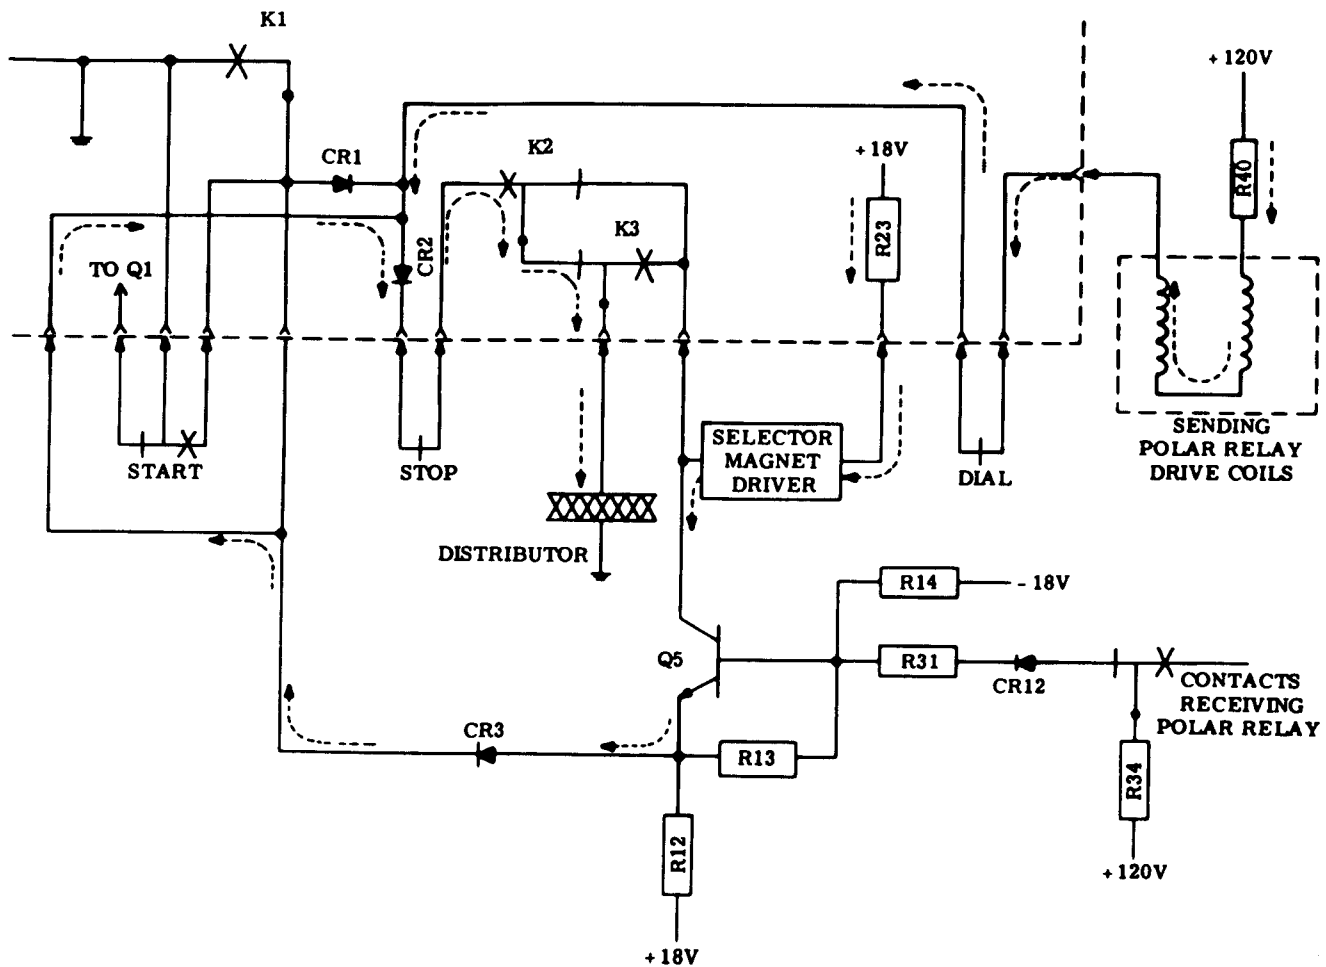

Figure 12 - Receiving Loop Control Circuit With Receiving Polar Relay
3.64 If ground is applied to the emitter of Q5 through CR3 or by strapping binding posts no. 1 and 2, the base is reverse-biased by the voltage divider made up of R13 and R14. If base current is now supplied, the transistor will turn on. With the collector load as shown in Figure 12, 0.060 ampere of collector current will flow.
contacts to ground as shown in Figure 12. Base current to Q5 is now supplied from the marking contact of the receiving polar relay through CR12 and R31. Input current to the selector magnet driver will flow from +18 volts through R23, the selector magnet driver, Q5, CR3, CR2, the stop contacts, K1, K2, and the distributor contacts to ground.